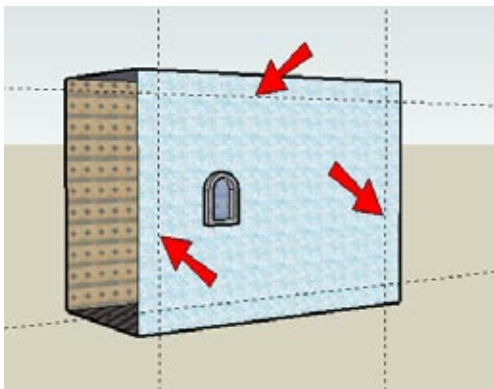

Figure 1-22
4. Create construction lines at the same offset distance from the other three edges of this wall (Figure 1-22).